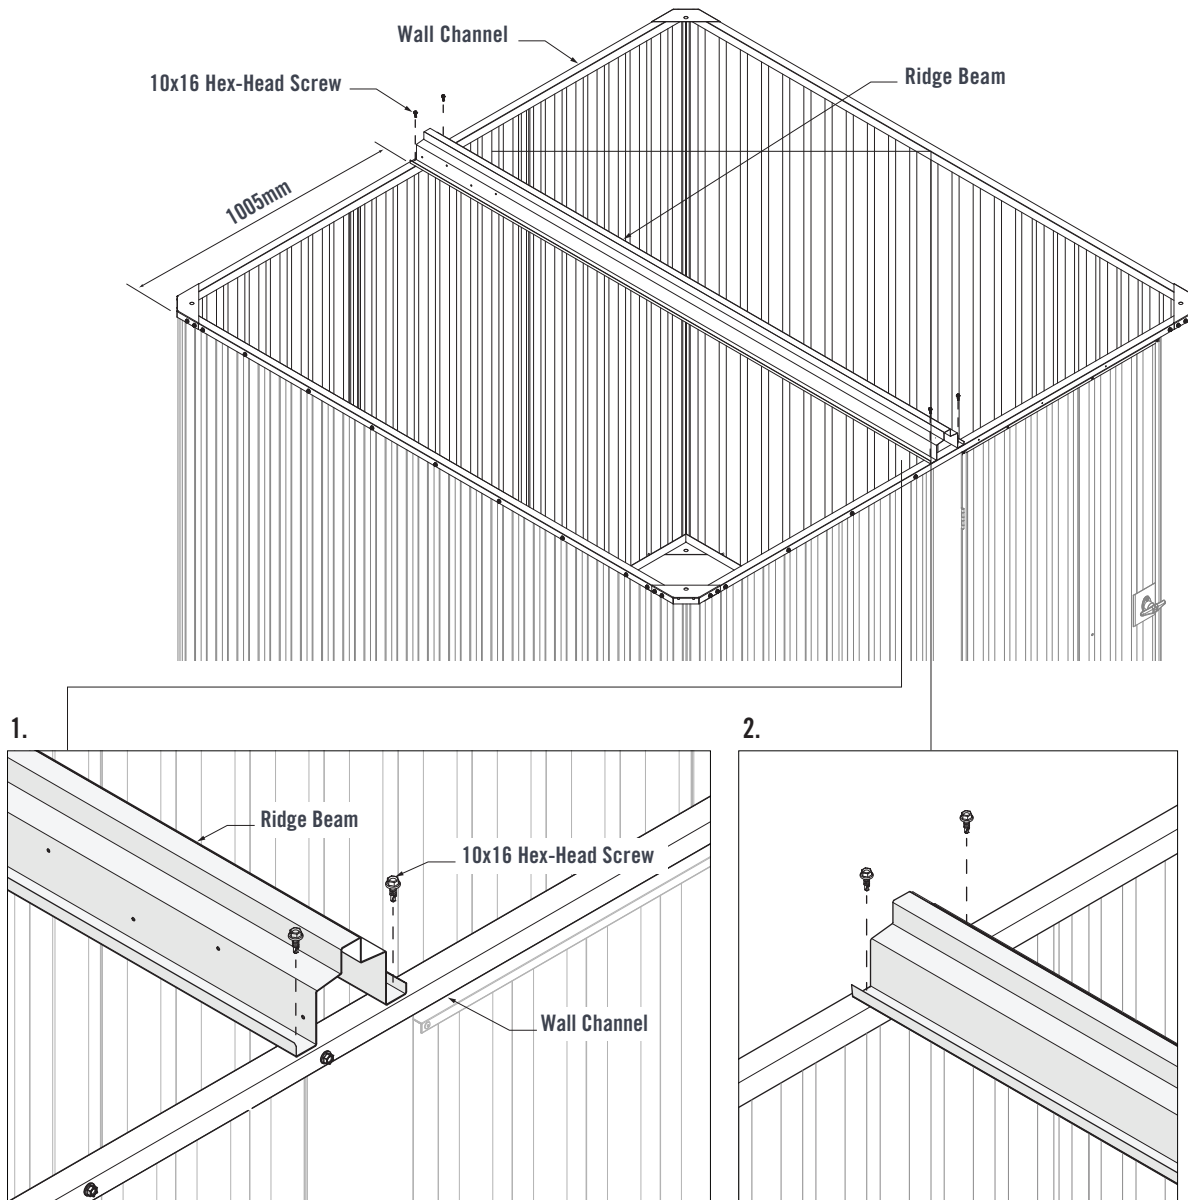

FIGURE 5.1
Fit the Ridge Beam onto the top Wall Channels. Ensure 1005mm spacing between the edge of the shed and edge of the Ridge Beam (Figure 5.1).
1. Align the end of the Ridge Beam with the outer edge of the Wall Channel. Fasten two 10x16 Hex-Head Screws through the pilot holes in the Ridge Beam and into the Wall Channel (Figure 5.1).
2. Fasten two 10x16 Hex-Head Screws through the pilot holes in the Ridge Beam and into the rear Wall Channel (Figure 5.1).